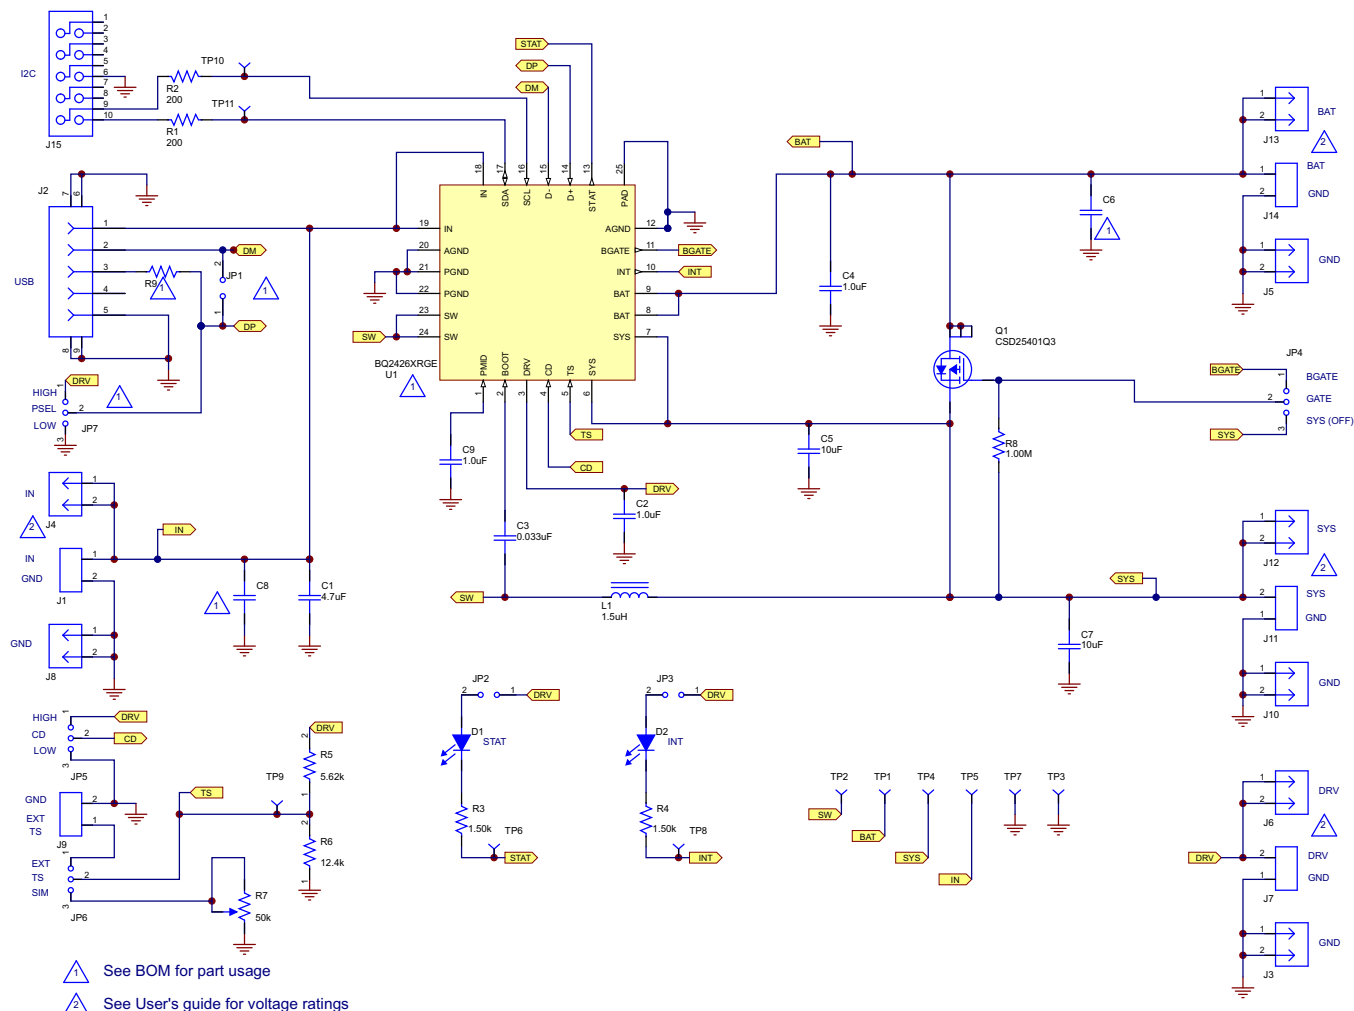

Figure 1. bq24260, bq24261, bq24262 EVM Schematic
The bq24260, bq24261, and bq24262 EVM schematic is shown in Figure 1.
3. If BAT_Load as shown in Figure 1 is used, connect PS #2 set to approximately 3.6 V to the input side (PS #2±) of BAT_Load, then turn off PS #2.